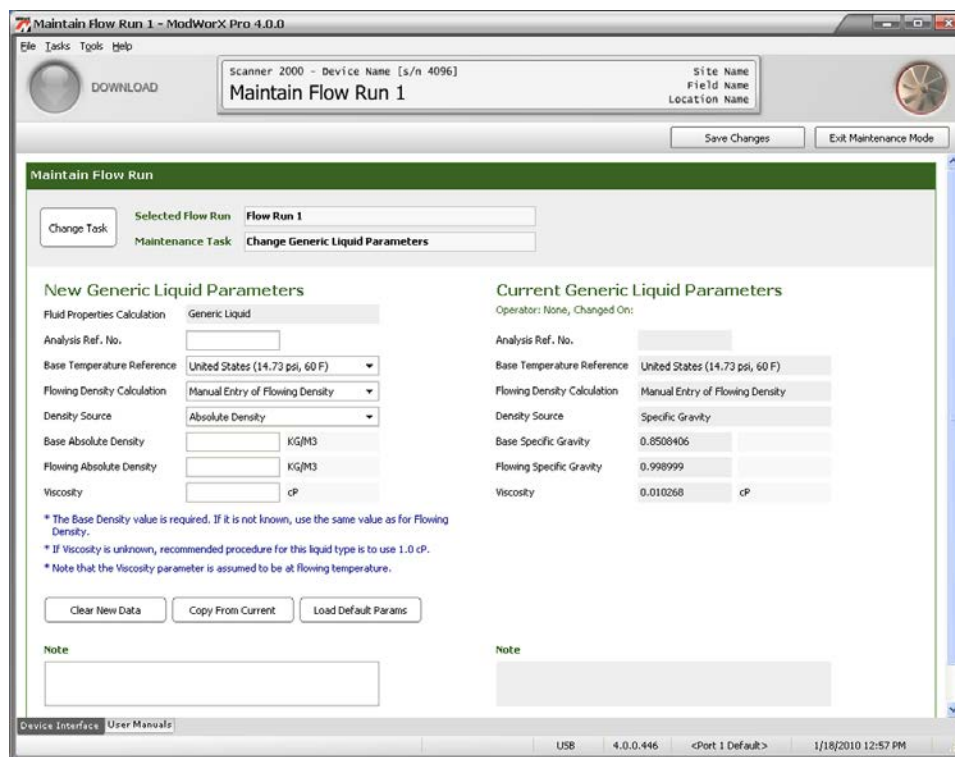

Figure C.5
- b. Click **OK** to save the settings and return to the Maintain Flow Run screen (Figure C.5, page C-5).